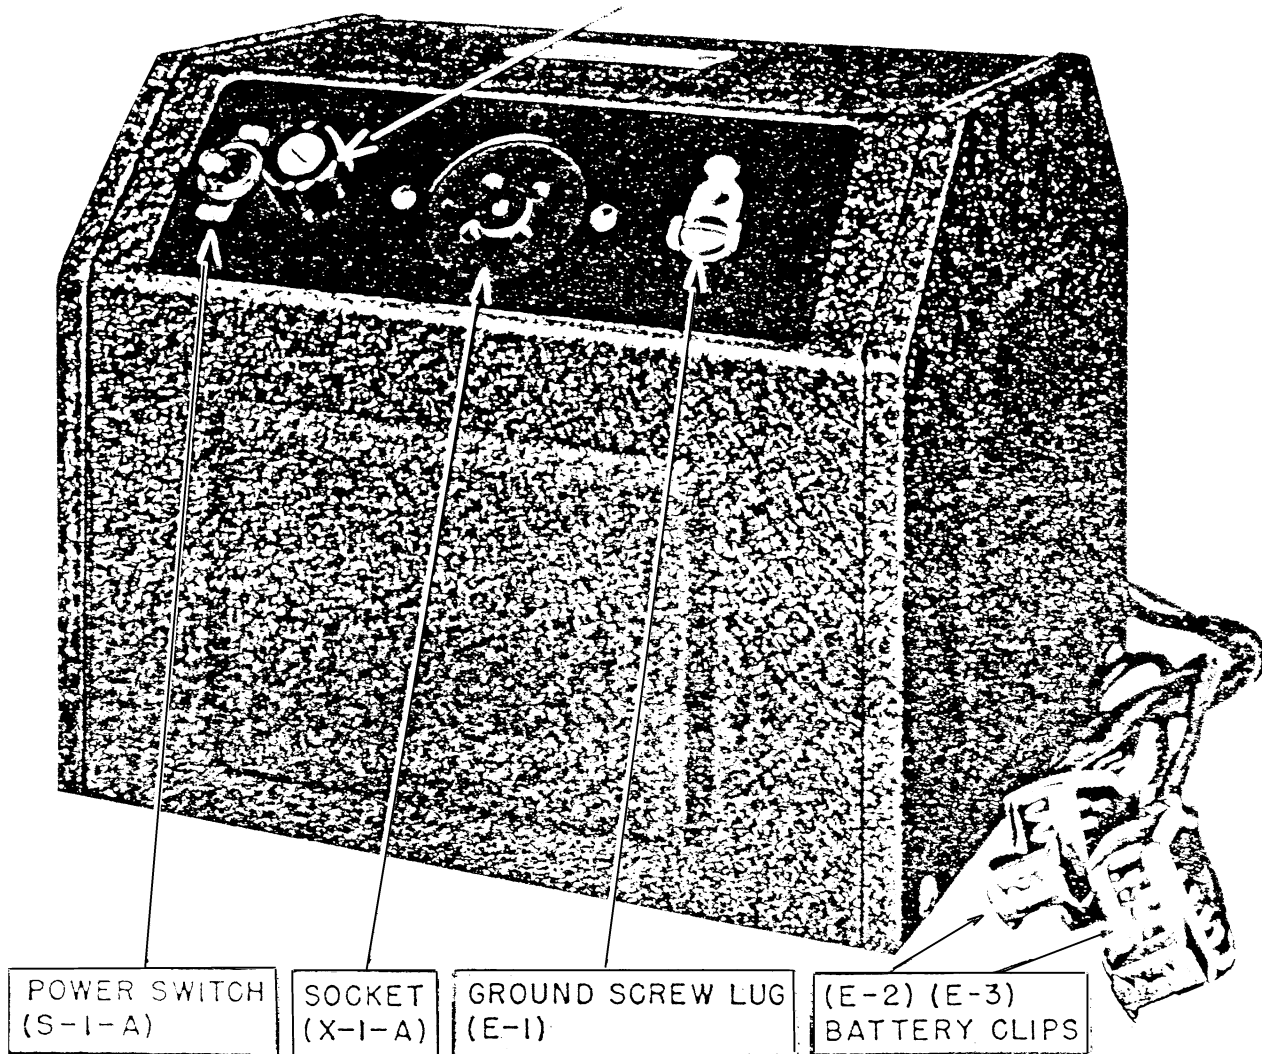

Figure 16. Power supply (National type 686-S).
d. Power supply (National type 686-S) is for use with a 6-volt d-c power source. (See fig. 16.) It is housed in a sheet metal cabinet finished in crackle black enamel. The cabinet completely incloses the unit and contains no openings other than the air vents located at the sides. The front panel mounts the OFF-ON switch (S-1-a), the fuse holder, and the receptacle (X-1-a) for receiver cable W-1. Rectifier Tube JAN-0Z4, or Tube JAN-6X5, is mounted inside the cabinet.